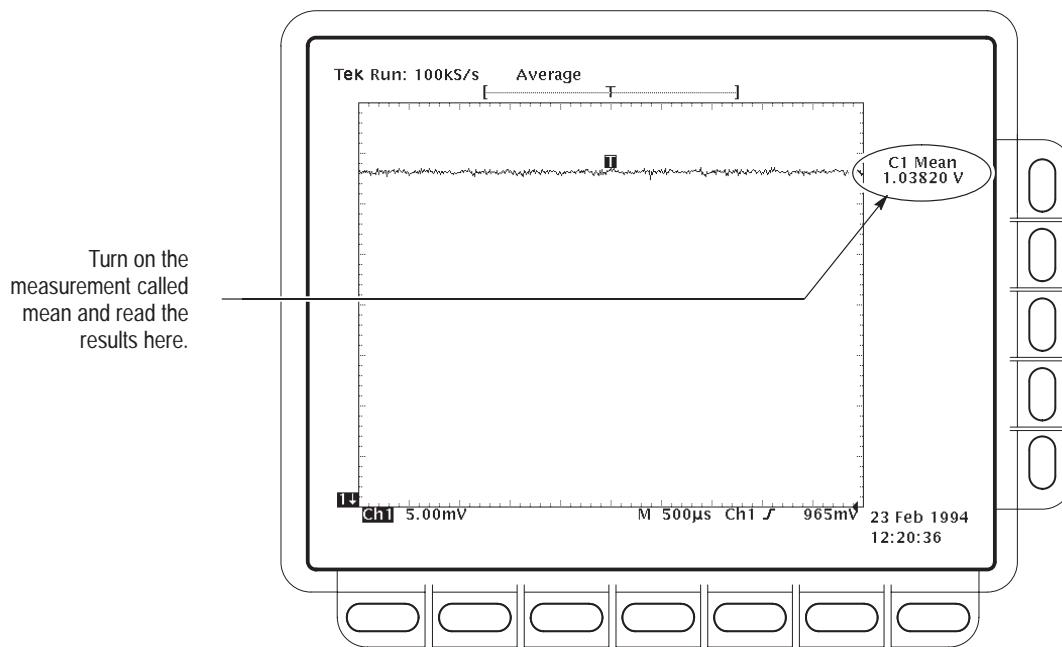

Figure 4-6: Measurement of DC accuracy at maximum offset and position
e. Measure the test signal: Press **CLEAR MENU**. Read the measurement results at the **Mean** measurement readout. See Figure 4-6.